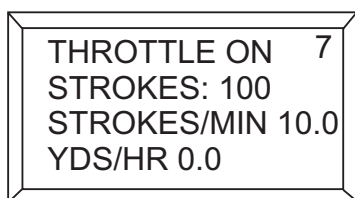

Figure 29. Strokes Per Minute Display
4. Scroll through the **digital readout screen** with the scroll switch to go to screen 7 (Figure 29). This screen will show the volume in strokes per minute. Multiply reading $\times 2$ for actual stroke count.